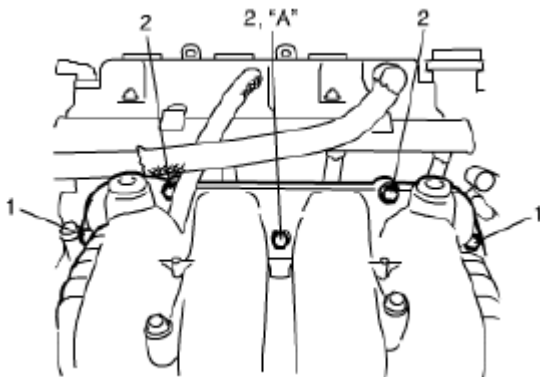

Fig. 27: Identifying Intake Manifold Bolts & Nuts
- Install intake manifold bolts (2) and nuts (1) as shown in **Fig. 27**.